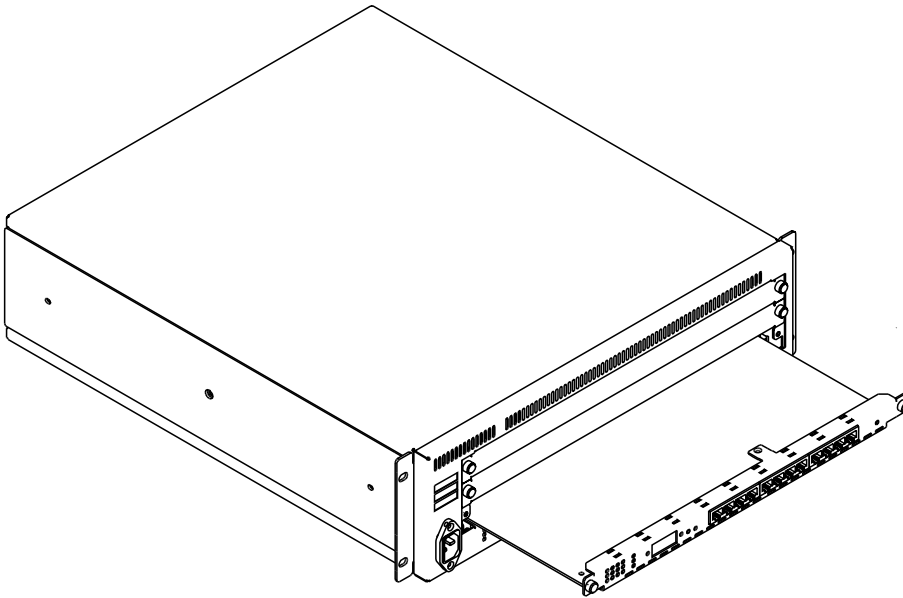

Figure 2-5. Installing the Module in a CELLplex 4000 Expansion Unit
4. Insert the 6412M-25-TP module into one of the free slots in the expansion unit as shown in Figure 2-5, matching the left and right board guides as you slide the module cleanly into place (by pressing evenly on the top and bottom of the faceplate).